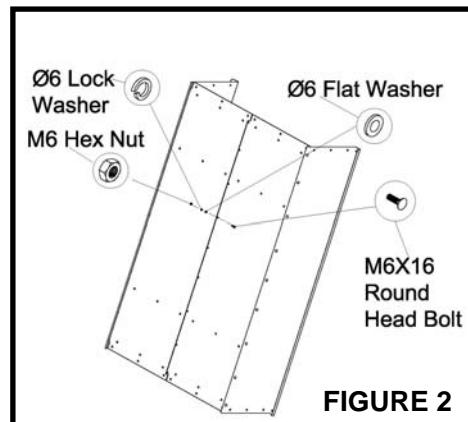

FIGURE 2
4. Position cart body halves upright on a smooth level surface such as a garage floor or a paved driveway. See figure 2.
5. Assemble halves together using nine Round Head Bolt M6x16, Flat Washer Ø6, Lock Washer Ø6 and Hex Nut M6 as shown in **Figure 2**.